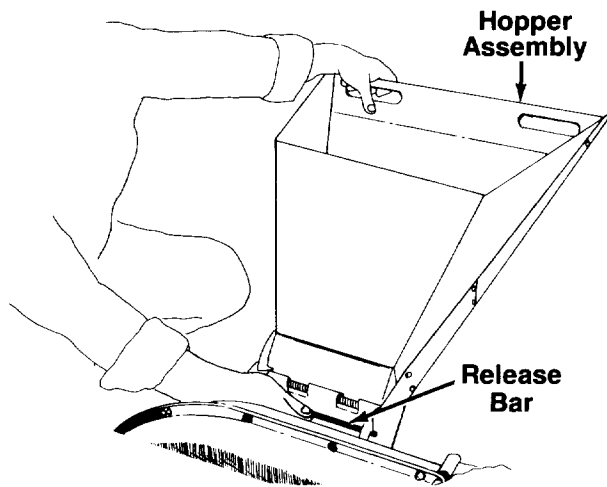

FIGURE 13.
- To lower the hopper assembly, use one hand to grasp the handle at the top of the hopper assembly and lift slightly. Pull up on the release bar, and lower the hopper assembly to the ground. Release the bar. See figure 13.